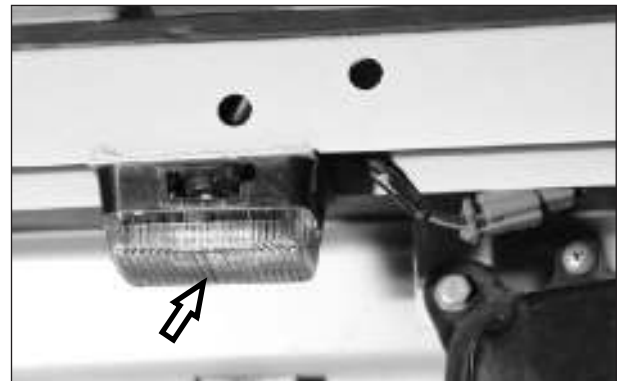

Fig. 9.35
- It is located in engine cabin inside the cross member camp cabin support rear.(Fig. 9.35)
- Remove the lamp glass from engine bay lamp. (Fig. 9.35)